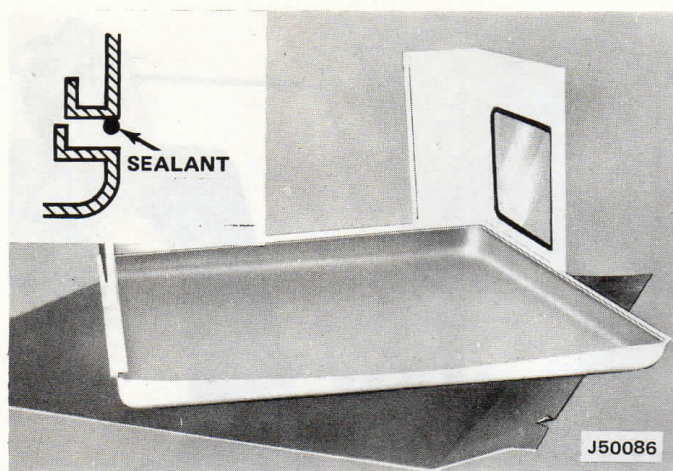

Fig. 2-18 Roof and Quarter Panels Assembled
- (1) Apply strip sealant to top quarter edges of quarter panels (fig. 2-18).
- (2) Place quarter panels on roof (with roof upside down in carton for protection) so that mating holes are aligned. Fasten each panel to roof with bolts and locknuts.